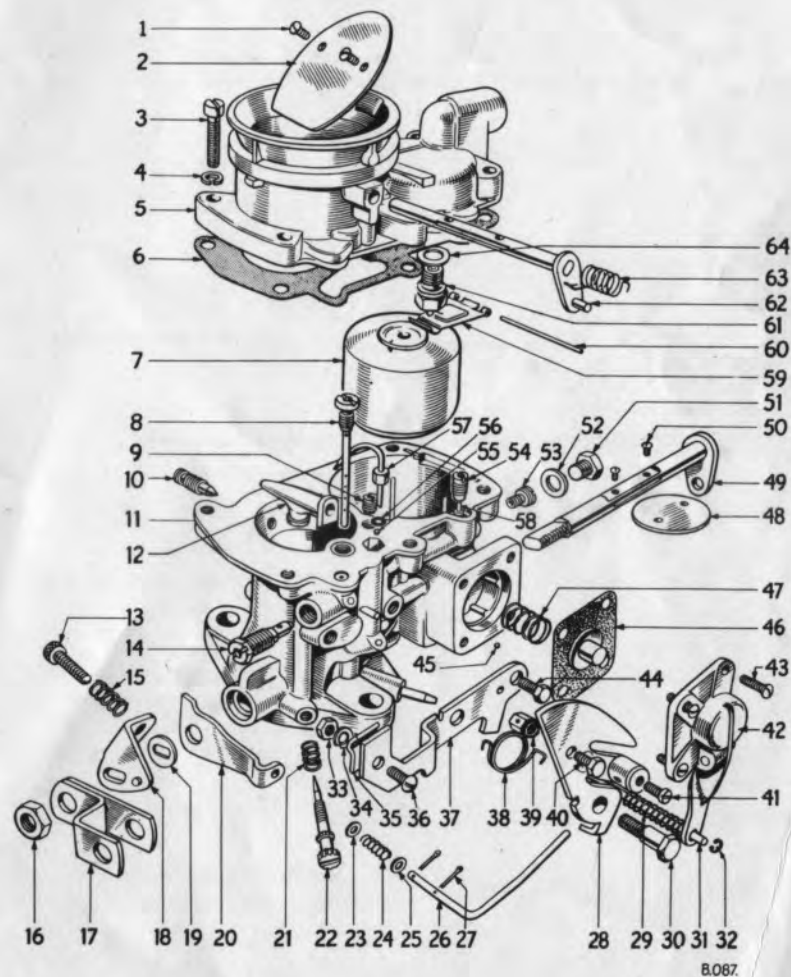
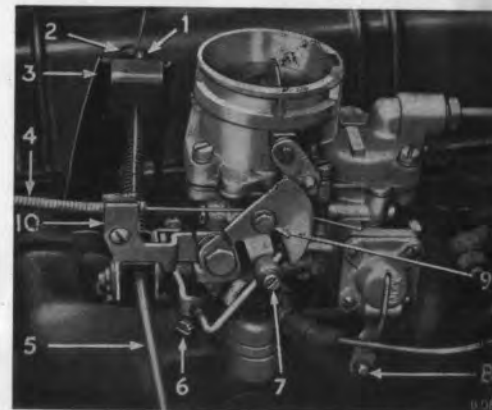

Fig. 43. Dismantled B.30 P.S.E.I. Carburettor.
Fig. 42. Carburettor.
2. Release the choke inner and outer cables (4) Fig. 42 from the abutment bracket and cam plate screw (9).
3. Disconnect the throttle cable (5) from the throttle lever. Remove two nuts and spring washers and detach the carburettor from the manifold.
**Dismantling and Cleaning (Fig. 43)**
**Re-assembly (Fig. 43)**
**Complete Dismantling (Fig. 43)**
## KEY FOR FIG. 43
**Setting the Idling (Fig. 43)**
2. Unscrew the volume control screw (22) until the engine begins to hunt.
5. This may cause a slight resumption of hunting. If so, gently screw in the volume control screw (22) until idling is perfect.